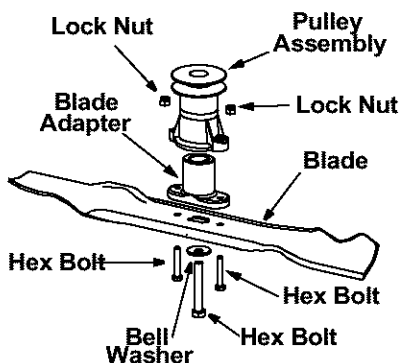

Figure 12
- Remove the bolt and bell washer which hold the blade-pulley assembly to the engine crankshaft. See Figure 12.
- Remove the two bolts and lock nuts from the blade assembly. See Figure 12.
- Install the blade adapter on the pulley with the “star” away from the pulley. See Figure 12.